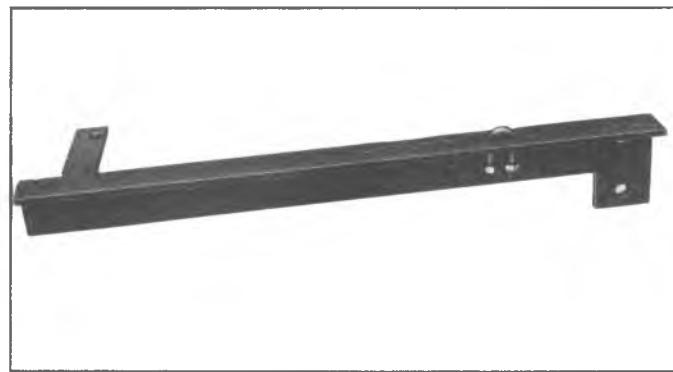

Fig. 2L—Engine Lifting Tool J-24680-2
21. Position Tool J-24680-2 (fig. 2L) to the engine and install with provided bolts (fig. 3L).
1. If engine was mounted in an engine stand, attach Tool J-24680-2 to engine (fig. 2L), then using lifting device, remove engine from stand and perform the following: